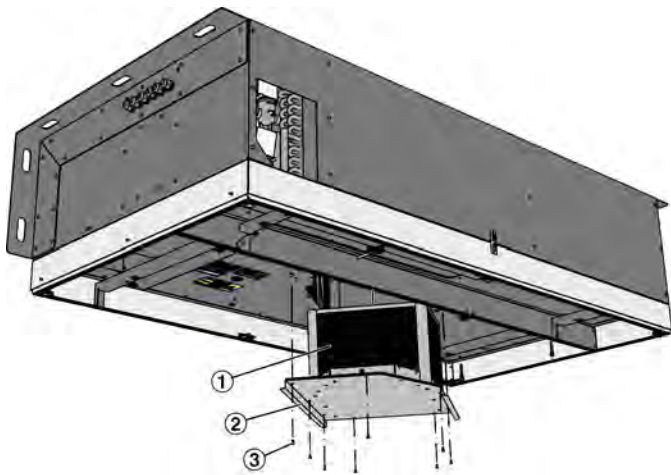

Fig. 76: Cleaning the recuperative heat exchanger
3. ▶ Loosen the screws (Fig. 76 /3) of the inspection access panel (Fig. 76 /2) for the heat exchanger (Fig. 76 /1), then pull the heat exchanger including the inspection access panel down and out of the unit.
Rinse the recuperative heat exchanger (Fig. 76 /3) with hot water (40 °C max.), e.g. by using a commercially available shower head.